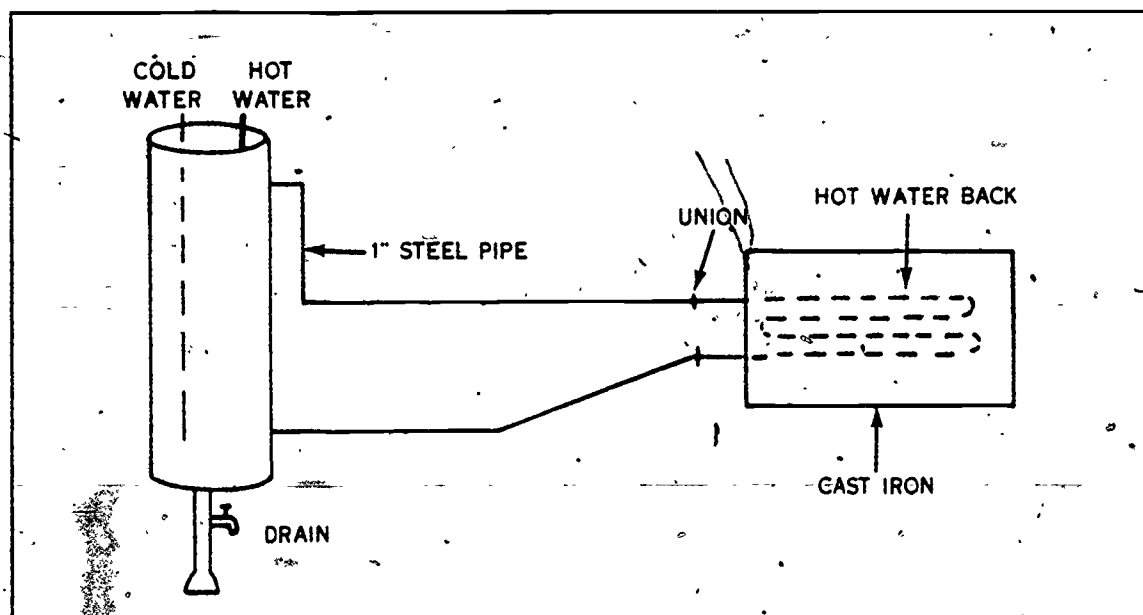
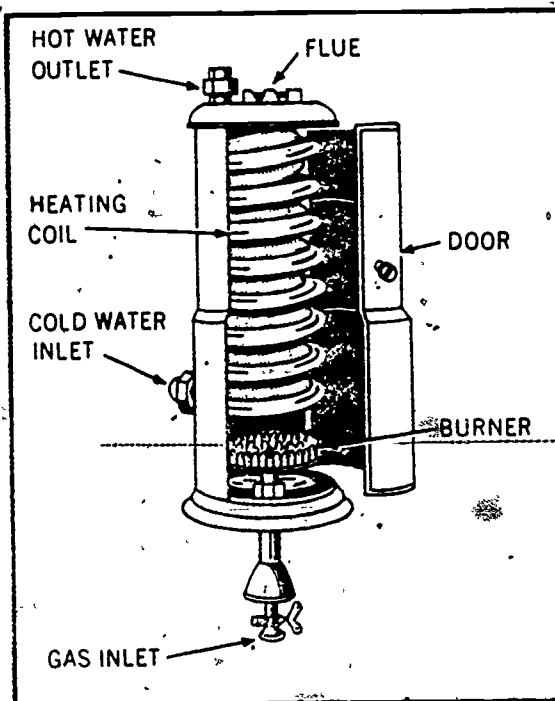

Figure 5-1. Water-back hot water system.
Figure 5-3. Auxiliary gas heater
**Types of Water Heaters.** Water heaters can be grouped in three categories: (1) range boilers, (2) gas-fired instantaneous heaters, and (3) storage type gas and electric heaters. The more common and standard types of heating devices are the water-back, furnace coil, coal, auxiliary gas, instantaneous heater, and underwater line heater. Each of these heating devices must have a water storage tank. The tank can be a part of the unit or an auxiliary tank.
**Water-back heater.** The water-back water-heating system, shown in figure 5-1, was probably the first method used in heating water for domestic use. The cast-iron heating unit was installed on one side of the firebox of a range that was used for both heating and cooking. The unit had waterways or channels for the circulation of the water. The water-back was very
**Auxiliary gas heater.** The auxiliary gas heater, shown in figure 5-3, is often used in conjunction with another heating unit. This unit may be installed with the furnace coil type heating unit to supply hot water during the time the furnace is on standby. The auxiliary gas heater is constructed of cast iron into which is fitted a 3/4-inch copper coil. The heat is supplied by a gas burner located at the bottom of the coil, as shown in figure 5-3. This heater must be equipped with a vent flue to carry away the dangerous and objectionable gases and odors. The heater is connected to a hot water storage tank similar to the one indicated in figures 5-1 and 5-2.